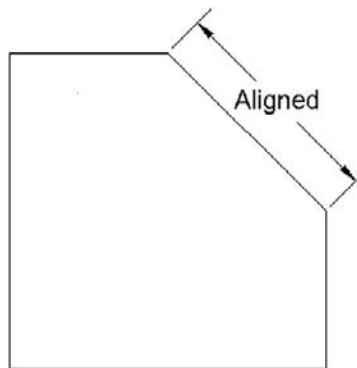

FIGURE 6.3
This is a dimension that measures a slanted line or object (Figure 6.3).
Step 1. Create a small to medium size rectangle or square and chop off a corner, as seen in Figure 6.3. Then begin the Aligned Dimension command via any of the previous methods.